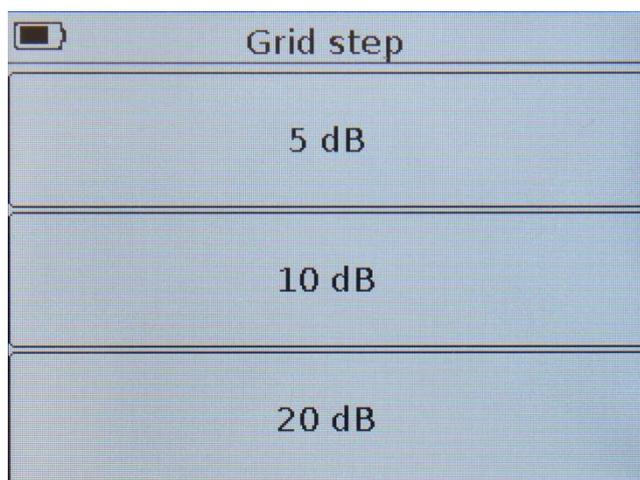

Figure 10.7 – Vertical grid step selection in dB
- Enter the **Plots** menu (Figure 9.6) and click on the field with the name of the chart. The device will display the menu for selecting the vertical grid step in decibels (dB), Figure 10.7.
- To quickly switch from the **LMag** plot viewing mode in the vertical grid pitch change menu (Figure 10.7), press and hold the **PLOT** button (14) for about two seconds.